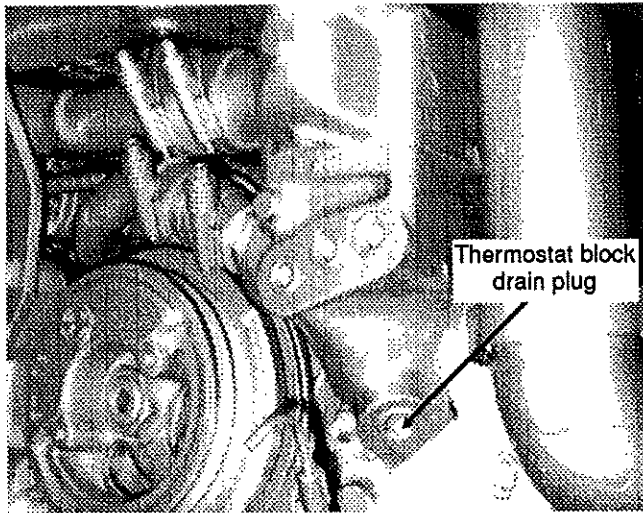

Fig. 4
3. Remove drain plug on each cylinder head thermostat block (see fig. 4).